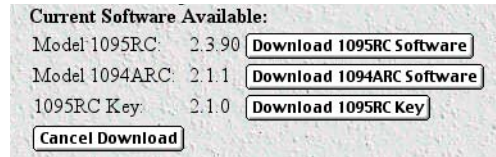

Figure 52. Download 1095RC software button
- If you are upgrading Model 1095RC software, click on the **Download 1095RC Software** button (see figure 52). Otherwise, go to step 8 to download the latest version of the 1095RC Key software.